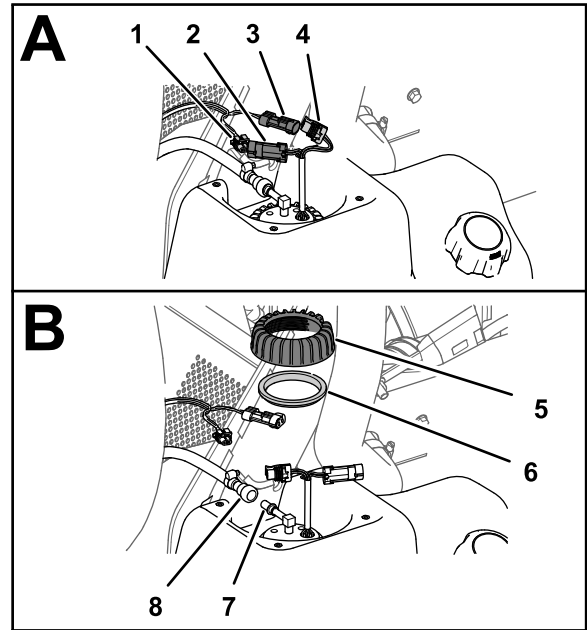

Figure 119
machine-wiring harness from the 2-socket connector of the fuel pump/sending unit (Figure 119).
2. Slide the locking sleeve of the fuel-hose coupling away from the fitting of the fuel pump/sending unit and remove the coupling and hose from the fitting (Figure 119).
3. Rotate the nut for the fuel pump/sending unit counterclockwise and remove the nut and seal (Figure 119)